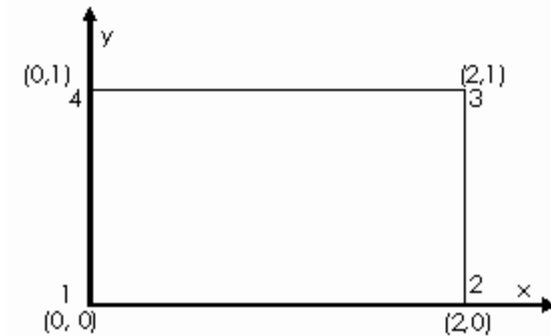

Figure: 3
6. For a 4 noded rectangular element shown in Figure 3, determine the following at $\epsilon = 0$; $\eta = 0$. Take $E = 2 \times 10^5 \text{ N/mm}^2$; $\nu = 0.25$ and $u = [0, 0, 0.002, 0.003, 0.005, 0.003, 0, 0]$. Assume plane stress condition: